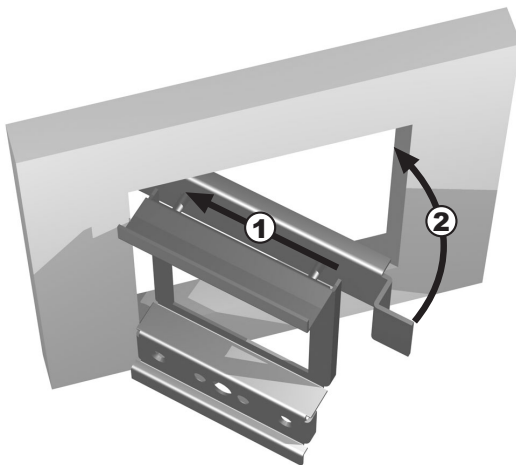

Figure 5 – Installing the MRC44 Keypad mounting bracket in the wall
- b. Run the supplied screws through the top (marked on the front of the bracket) of the mounting bracket into the back-bar as shown in **Figure 5**.